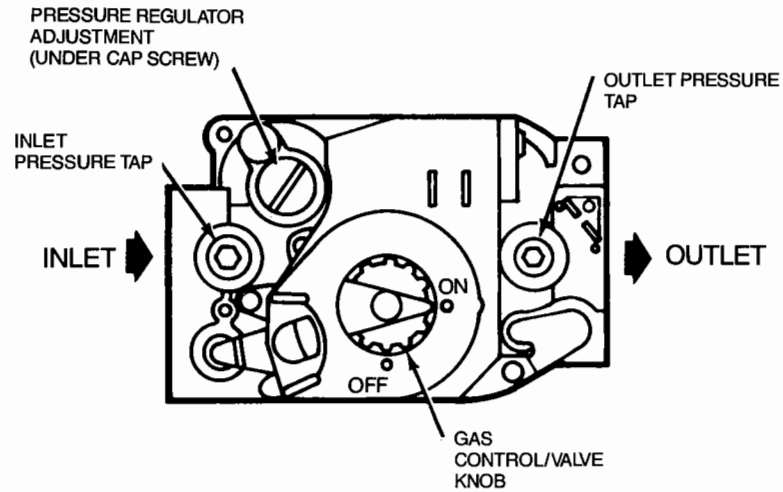
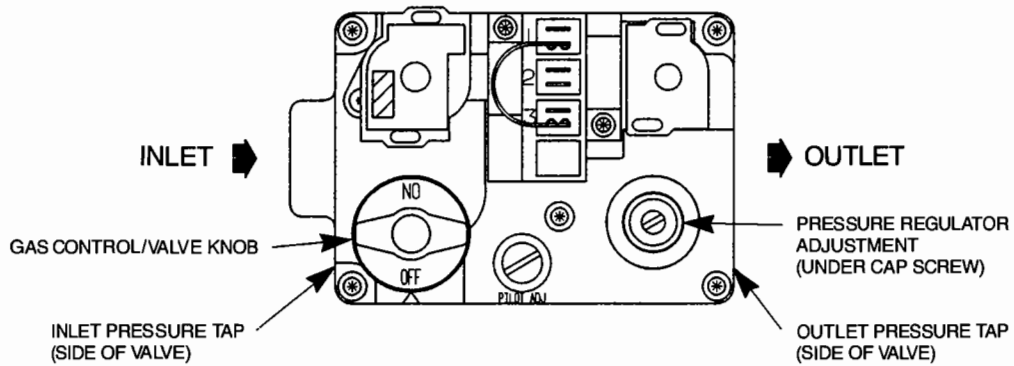
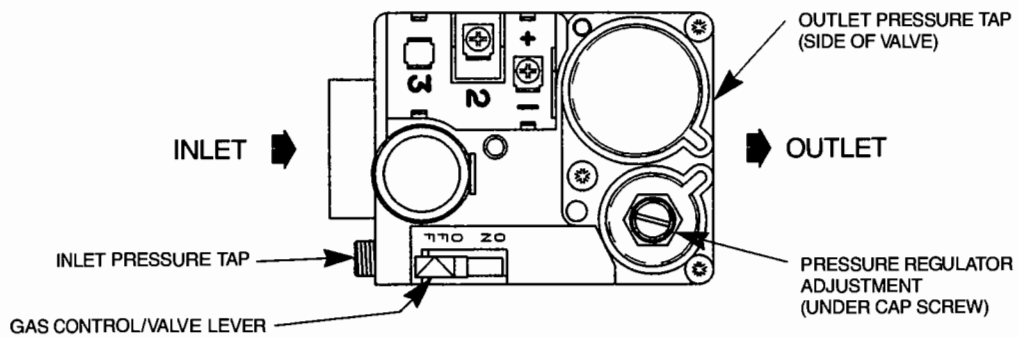

**FIG. 3A — HONEYWELL
**FIG. 3B — WHITE RODGERS
**FIG. 3C — ROBERTSHAW (GRAYSON)
6. Turn the gas control valve knob clockwise to the "Off" position for either the White Rodgers 36-E gas valve (Fig. 3B) or the Honeywell VR-8205 gas valve (Fig. 3A). For the Robertshaw 7200 gas valve, push in and slide the lever to the "Off" position (Fig. 3C). Do not force.
8. If you have waited five minutes and you smell gas, immediately follow the instructions on the cover of this manual. If you have waited five minutes and do NOT smell gas, then turn the gas control knob counterclockwise to the "On" position for either the White Rodgers 36-E gas valve (Fig. 3B) or the Honeywell VR-8205 gas valve (Fig. 3A). For the Robertshaw 7200 gas valve, push in and slide the lever to the "On" position (Fig. 3C). Do not force.
3. Turn the gas control knob clockwise to the "Off" position for either the White Rodgers 36-E gas valve (Fig. 3B) or the Honeywell VR-8205 gas valve (Fig. 3A). For the Robertshaw 7200 gas valve, push in and slide the lever to the "Off" position (Fig. 3C). Do not force.